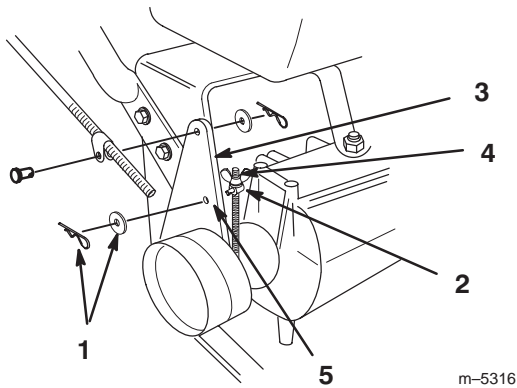

Figure 37
3. To adjust the brake remove the cotter pin and washer from the brake lever (Fig. 37).
4. Rotate the trunnion so it smoothly slides into brake lever hole "F" (Fig. 37). Tighten wing nut.
5. Secure trunnion to brake lever with washer and cotter pin (Fig. 37).